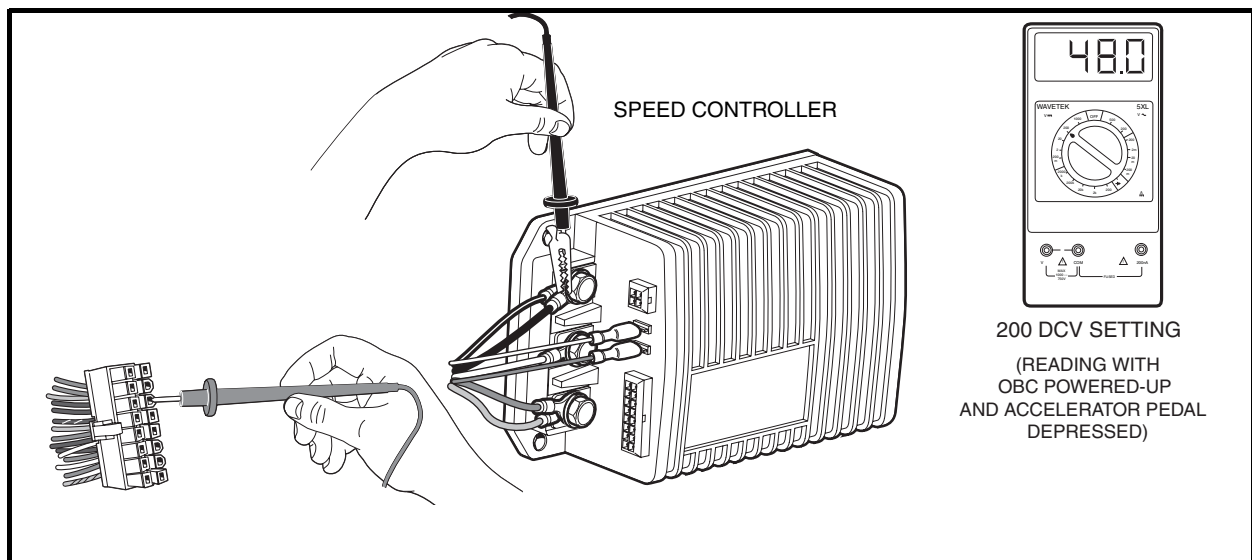

Figure 18-11 Pin 6 Test
4. Set a multimeter to 200 volts DC, insert the red (+) probe of the multimeter into pin 6 (green wire) of the 16-pin connector. **See following CAUTION.** Using an alligator clip, connect the black (–) probe to the B–terminal of the speed controller (**Figure 18-11, Page 18-22**).